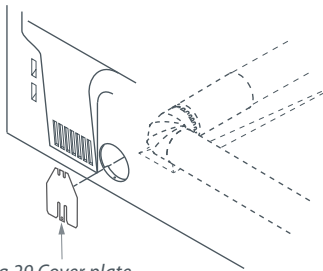

Fig.29 Cover plate
- Cover the original duct opening at the back with a plate (kit WE1M454, available from Fisher & Paykel (refer to page 86). Refer to Figure 29 (page 37).